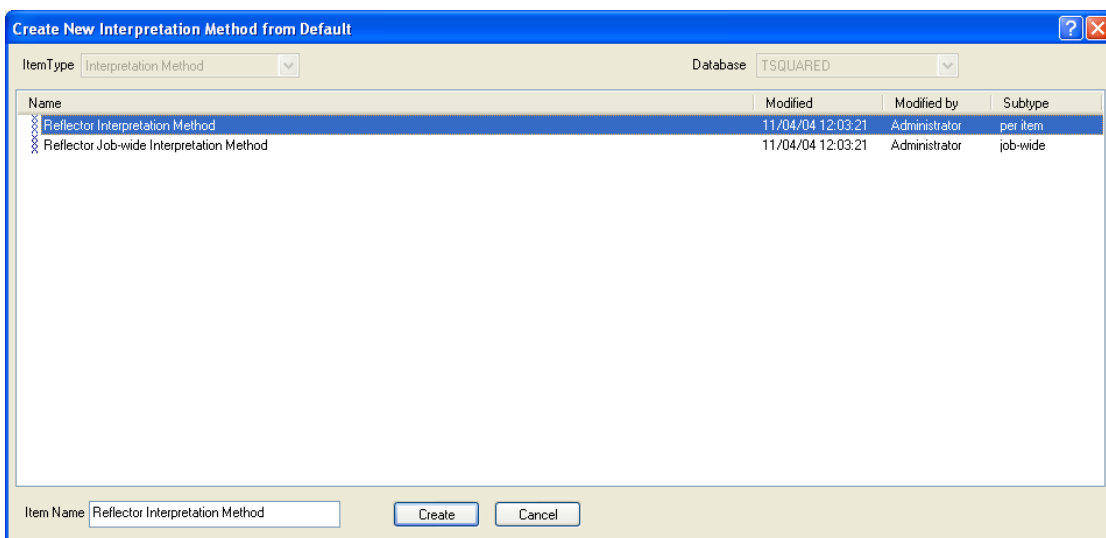

Figure 8-1 Create New Interpretation Method Dialog Box
1. Select **File > New > Interpretation Method**. The Create New Interpretation Method from Default dialog box opens (Figure 8-1).